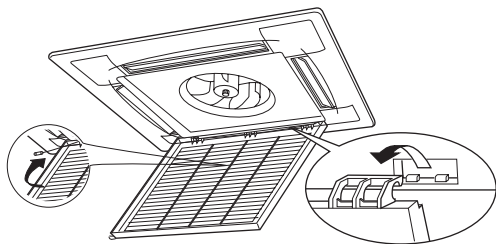

fig.9-2
- 2 **Take out the air-in grill (together with the air filter shown in *fig.9-2*).**